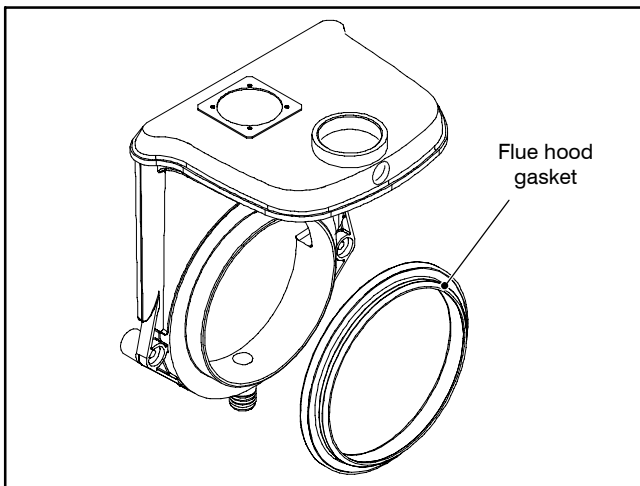

Fig. 18.8
**Before reassembling ensure that the flue hood gasket is correctly mounted (Fig. 18.8).**